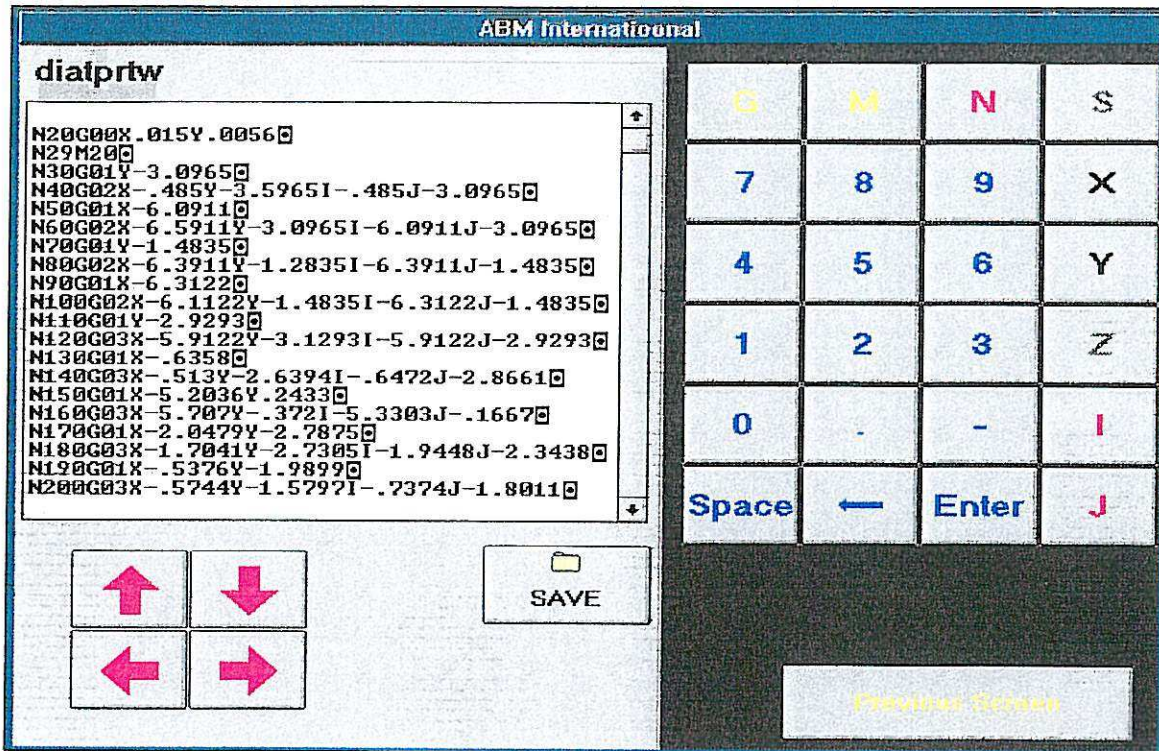

Figure 4.22
- A. Press “Edit Pattern” key and an edit screen will appear. See Figure 4.22.